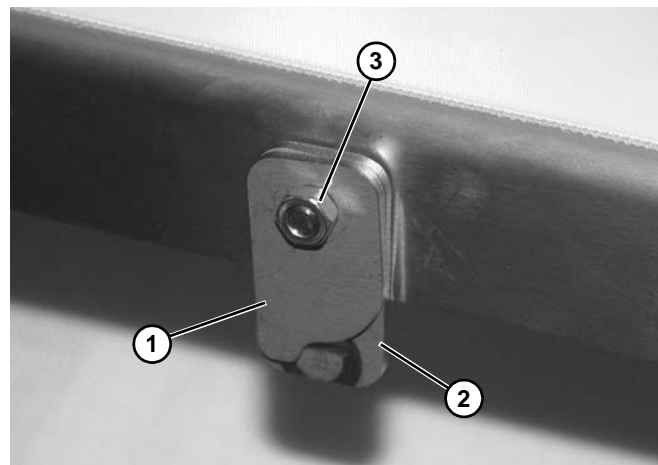

Figure 32
3. Install clip bracket (**Figure 32, item 1**) onto shaft bracket (**Figure 32, item 2**) and carriage bolt. Secure with nut (**Figure 32, item 3**). Leave assembly loose. Do not tighten at this time. Repeat on opposite side of conveyor.